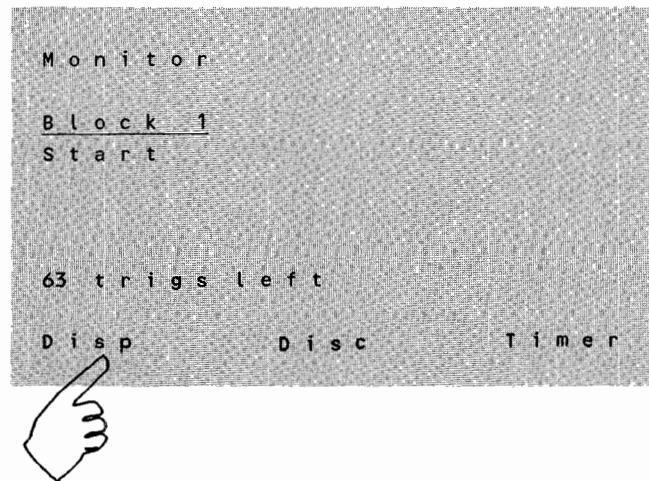

Figure 6-2. Softkey Programming
**Softkey Programming.** The softkeys display only appropriate choices. Press one of the softkeys in the Monitor or Simulate Menu. Other choices will appear, leading you through the program. For example, pressing <Start> causes the new softkey choices <Display>, <Disc>, and <Timer> to appear. See Figures 6-2 and 6-3 (These figures are only for illustration: the display starts automatically).